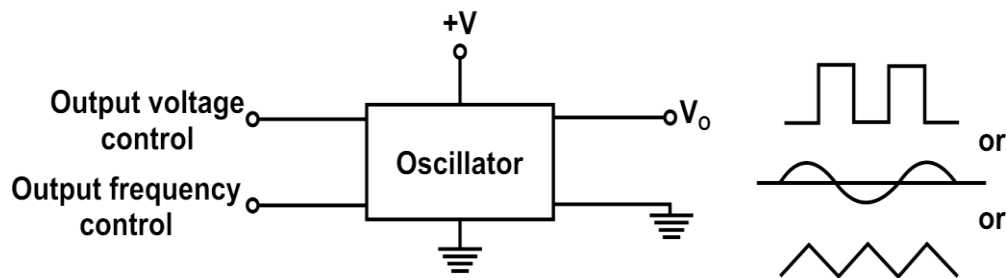

Fig.5. 3 Oscillator
- RC network shown in Fig. 5 (a) is sometime called as the ladder network.